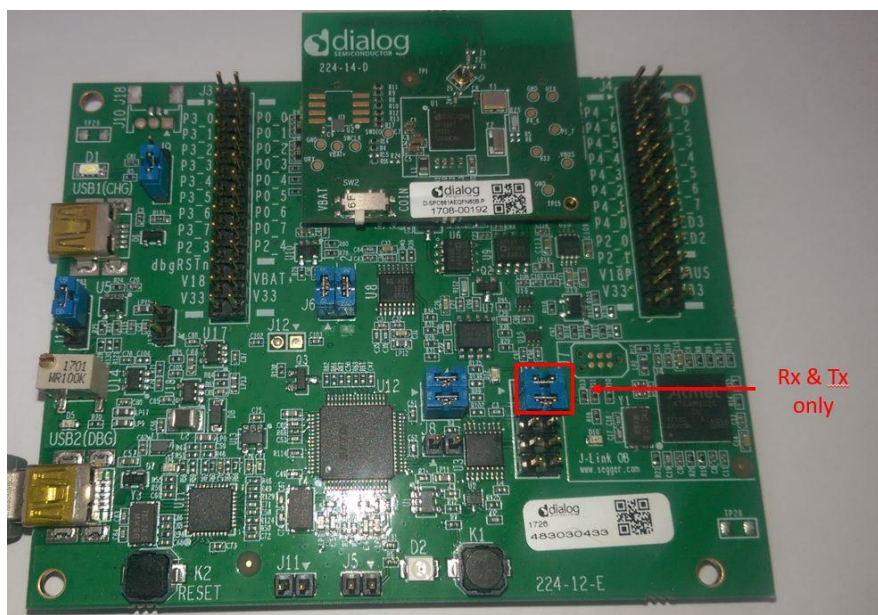

Figure 61: Jumpers only on Rx and Tx for ProDK no Flow Control
- On a ProDK make sure that CTS is not connected on the UART by ensuring there is no jumper on J15.7-8 as shown in Figure 61.
The Bluetooth low energy peripheral device does not have flow control on its UART so on a ProDK on the virtualCOM port configure as shown in Figure 61Figure 24 and on a BasicDK with an FTDI cable connect as in Figure 15.